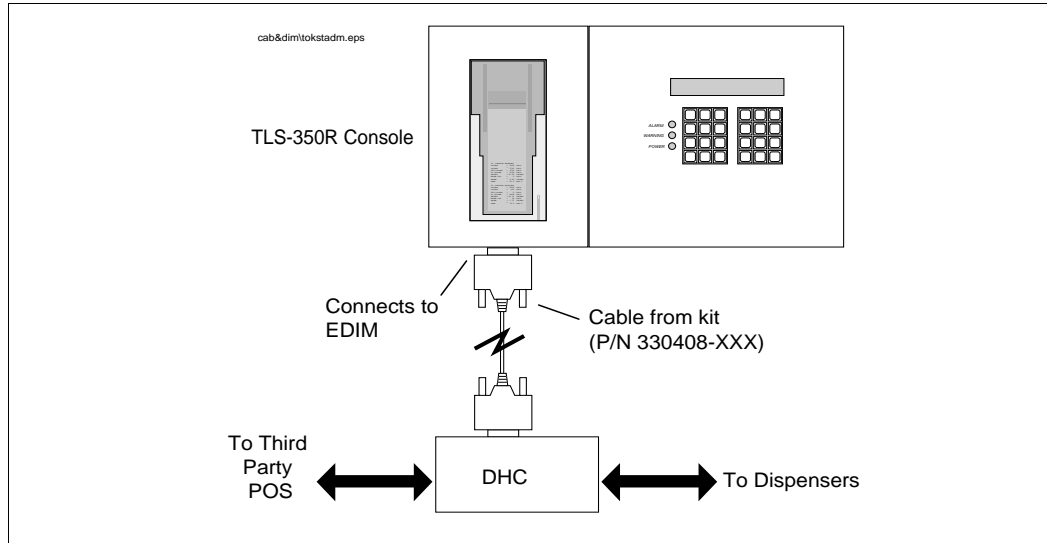
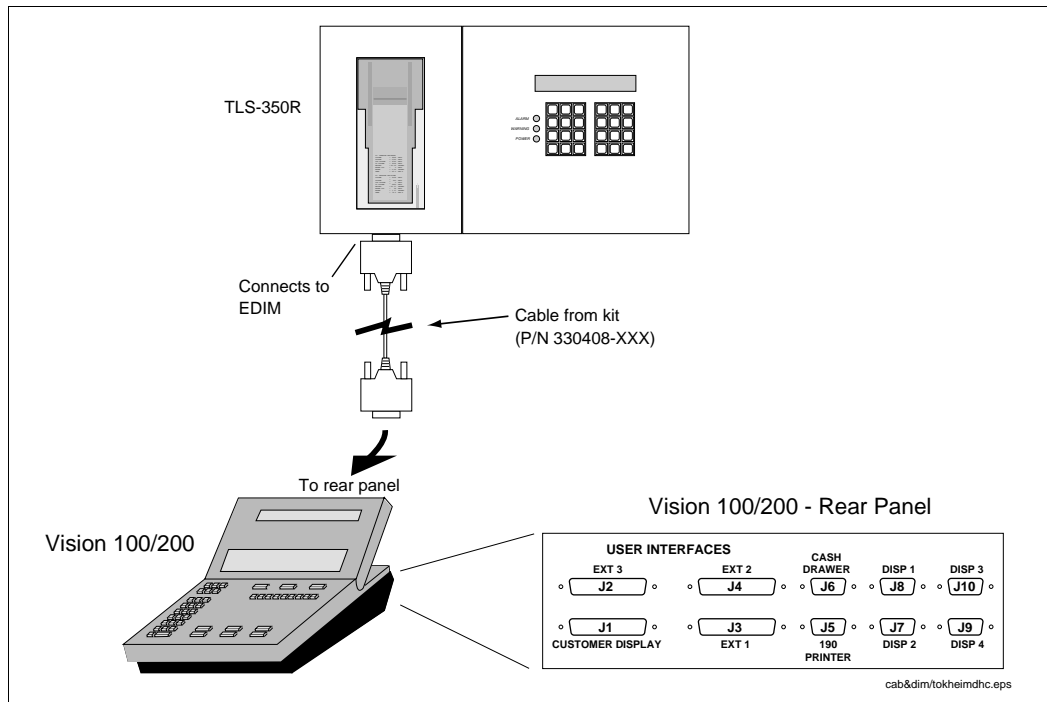
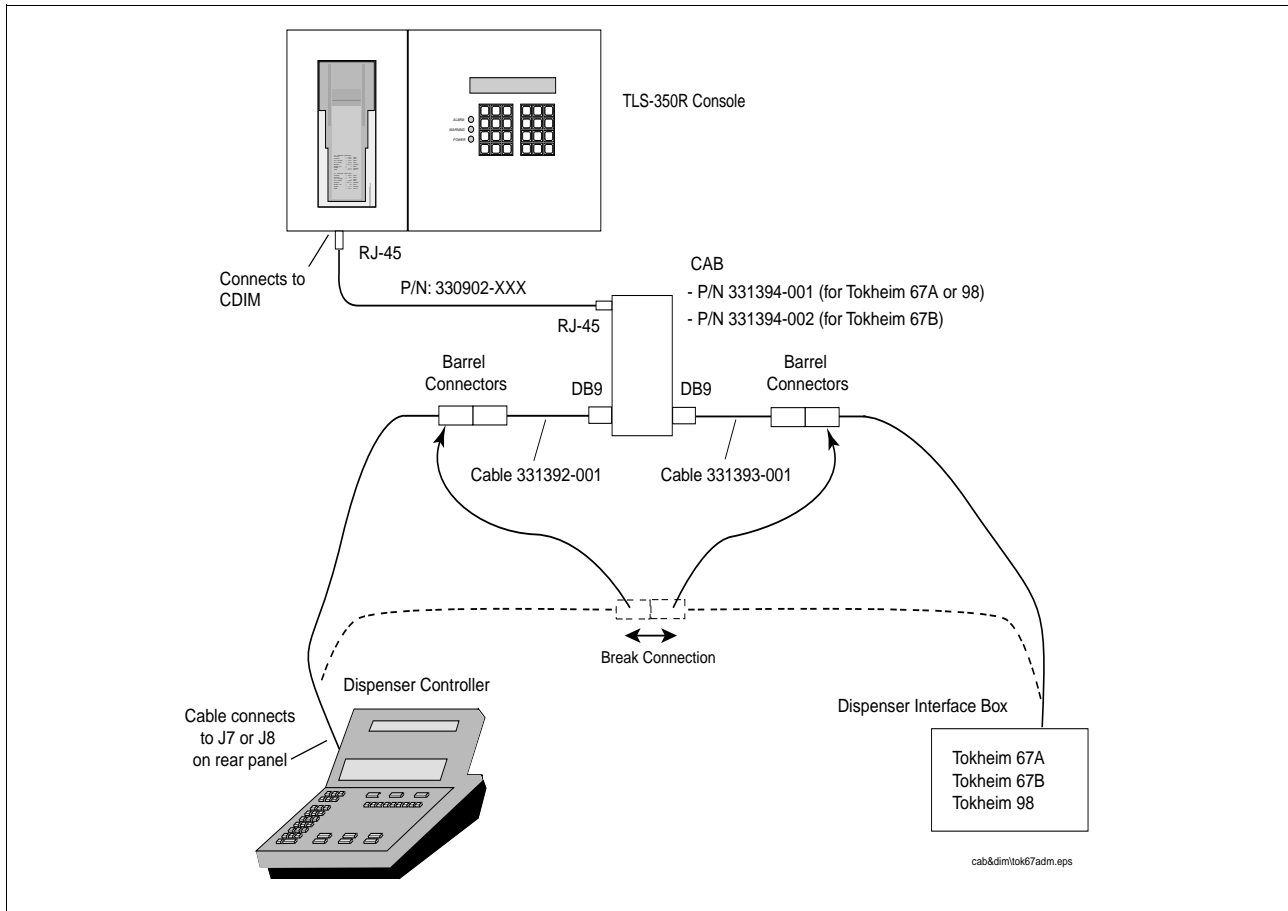

Figure 3. Stand-alone DHC Installation
Figure 4. Example of Tokheim Vision 100/200 Installation
Figure 5. Dispenser Controller Interconnection with Single CAB
1. Connect one end of the cable (330408-XXX) to the 25 Pin D connector on the Tokheim DHC DIM board you installed in TLS (see Figure 3 on page 6 and Figure 4 on page 6).
2. Connect other end of this cable to J2 on either the Stand-alone DHC (see Figure 3 on page 6 and Figure 5 on page 8), or on the Tokheim Console (see Figure 4 on page 6 and Figure 5 on page 8). The default setting for J2 is SCS 1200.
3. If J2 is unavailable, J4 can be used (see Figure 5 on page 8). The default setting for J4 is SCS 9600. When using this J4, use the DIM parameter “B9” in the following TLS Console setup procedure:
1. Locate the barrel connector junction in the cable between the Dispenser Controller and the Dispenser Interface Box (Figure 5).